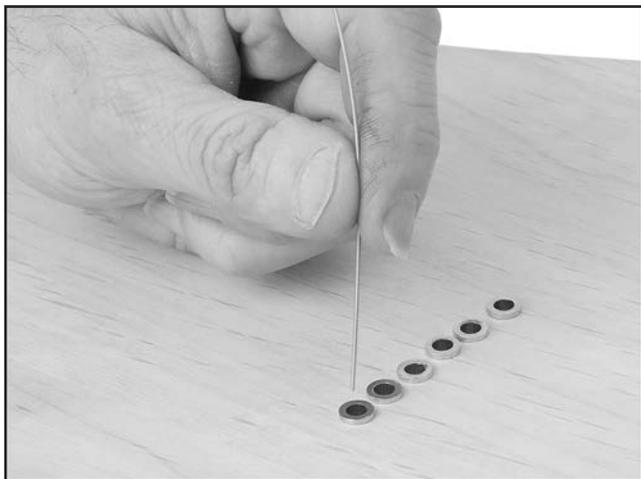

Figure 26. Threading string through ferrule.
1. If you installed ferrules, thread the 1st string through the ferrule, as shown in **Figure 26**.